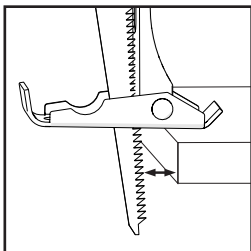

Fig. 9
- Ensure that the workpiece contact plate is firmly in contact with the workpiece but that the blade is not. (**Fig. 9**).